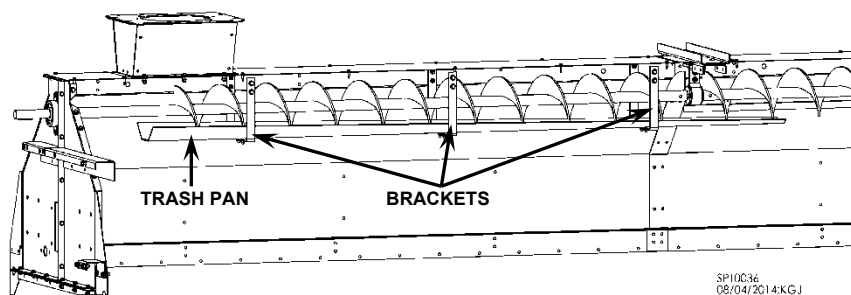

Fig. 2-26 – Trash pan and bracket installation
1. Bolt trash pan brackets to wet bin on filling end of dryer. Bolt trash pan to trash pan brackets. See Fig. 2-26.